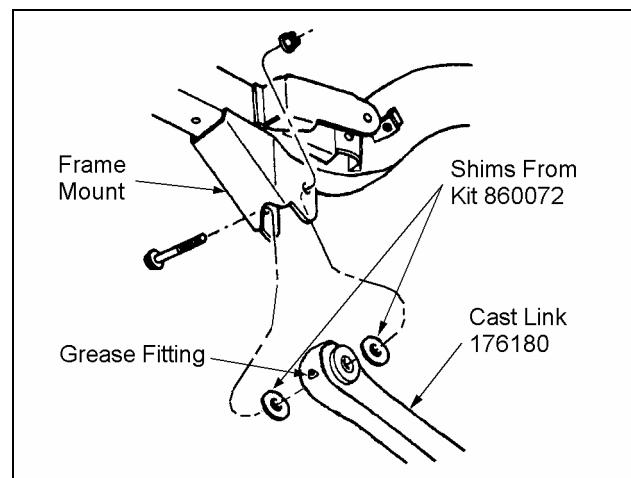

Figure 13
- 1) ☐ Place track bar bracket 130019 on top of the axle bracket as shown in figure 13. To properly align the bracket, insert a 12mm bolt from kit 860072 through both brackets.
- 3) ☐ Install new Rancho cast link 176180, along with four shims from kit 860070, to the frame and axle brackets. See figure 13. Use original hardware but do not tighten.